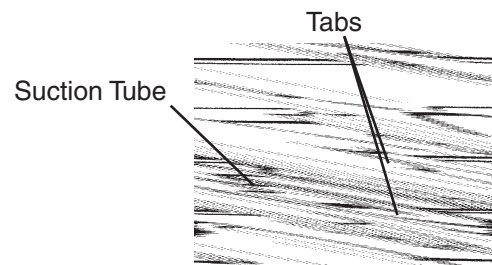

Fig. 35
- 4) Reconnect the suction tube as illustrated. See Fig. 35. Make sure the tabs lock into place; a loose fitting may cause a water leak.